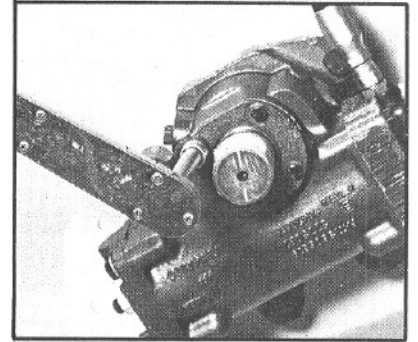
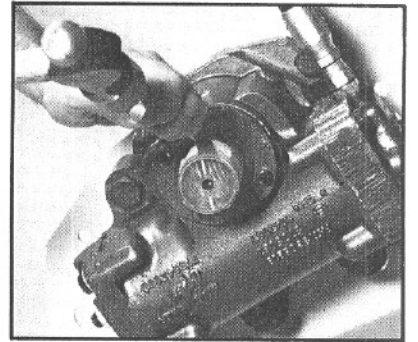

Figure 13
Figure 14
- 1.9 Install the four trunnion cover bolts (28) and torque them to 15-22 ft. lbs. (FIG. 13). Pack the cavity around the seal area of sector shaft (50) with *Mobil Temp 1 or 2 grease. Install a new dirt and water seal (27) using a suitable blunt-ended drift (FIG. 14). Remove the tape from the sector shaft.